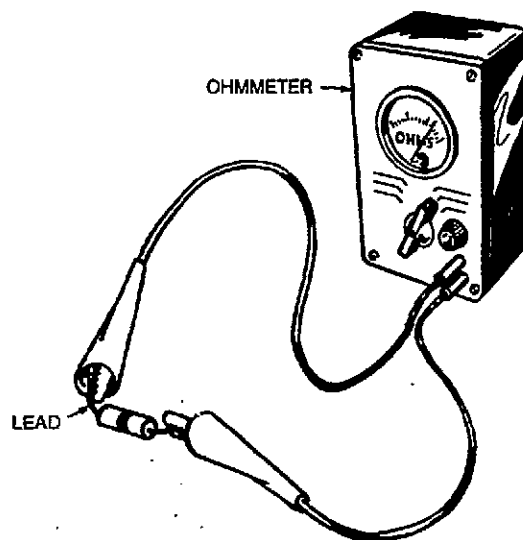

FIGURE 9. TESTING DIODES
1. Connect one ohmmeter lead to each end of diode and observe resistance reading, Figure 9.